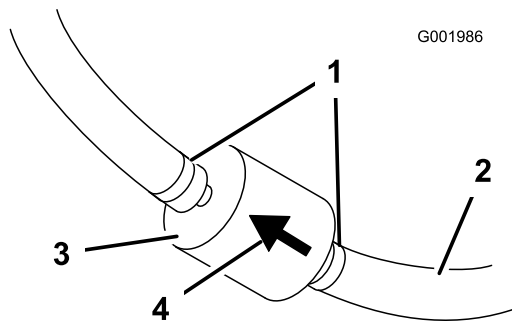

Figure 43
5. Squeeze the ends of the hose clamps together and slide them away from the filter (Figure 43).